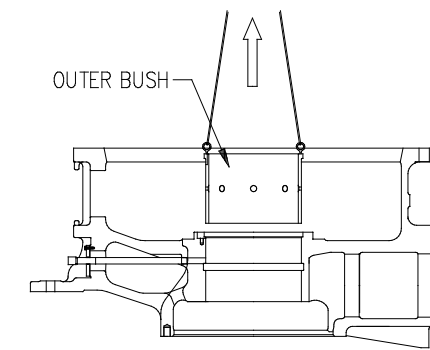

Fig. 6.8.8
14. Withdrawal of the outer bush is the same as for the inner bush depending on its condition. It is either withdrawn as it is, or after being cooled with dry ice. In most cases when the eccentric sleeve has to be pushed out forcibly, the outer bush can then be removed by means of a chain block or equivalent. (Fig. 6.8.8).